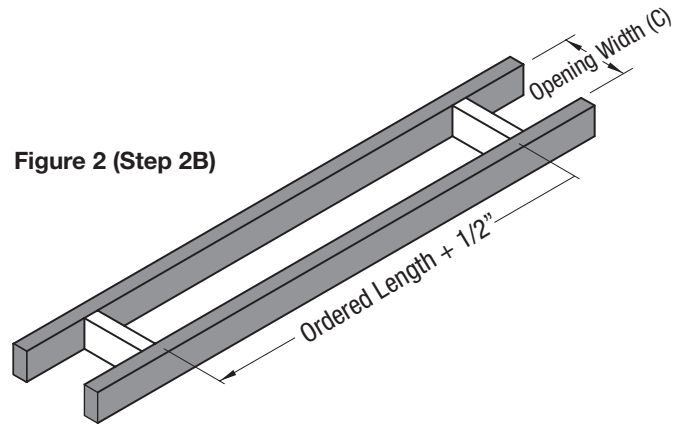

Figure 2 (Step 2B)
- B. In general, the length of the opening within the framing should be the ordered size plus $\frac{1}{2}$ " (see Figure 2) and the opening width should be the "C" dimension from the Greenheck LSD-AA and LSD-CC submittal. For convenience, we have provided the dimensional drawing (see Figure 3) and dimension table (see Figure 4) from the LSD-AA submittal (please note the most up-to-date information will be on the submittal).